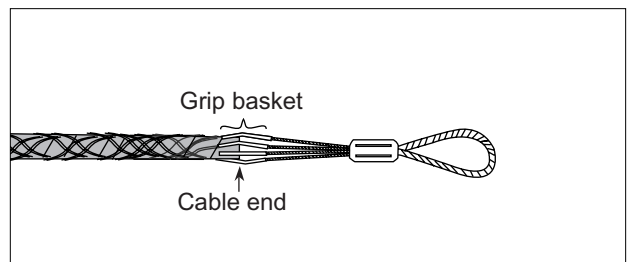

Figure 15 — Cable-end position in grip
Step 17: Walk the grip over the friction tape-covered cable core until the cable end is in the middle of the grip basket (Figure 15).